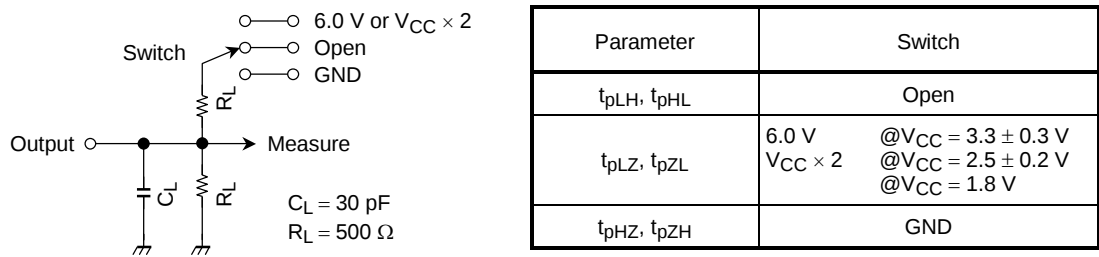
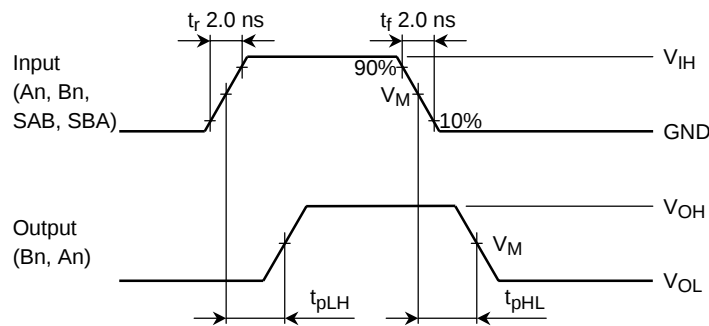

Figure 1
Figure 2  $t_{pLH}$ ,  $t_{pHL}$
| Maximum clock frequency                                | f max                         | Figure 1, Figure 3           | 1.8                 | 100 | —   | MHz  |
| Propagation delay time(An, Bn-Bn, An)              | t pLHt pHL     | Figure 1, Figure 2           | 1.8                 | 1.5 | 9.8 | ns   |
| Propagation delay time(CAB, CBA-Bn, An)            | t pLHt pHL     | Figure 1, Figure 3           | 1.8                 | 1.5 | 9.8 | ns   |
| Propagation delay time(SAB, SBA-Bn, An)            | t pLHt pHL     | Figure 1, Figure 2           | 1.8                 | 1.5 | 9.8 | ns   |
| Output enable time( $\overline{OE}$ , DIR-An, Bn)  | t pZLt pZH     | Figure 1, Figure 4, Figure 5 | 1.8                 | 1.5 | 9.8 | ns   |
| Output disable time( $\overline{OE}$ , DIR-An, Bn) | t pLZt pHZ     | Figure 1, Figure 4, Figure 5 | 1.8                 | 1.5 | 8.8 | ns   |
| Minimum pulse width                                    | t w (H)t w (L) | Figure 1, Figure 3           | 1.8                 | 4.0 | —   | ns   |
| Minimum setup time                                     | t s                           | Figure 1, Figure 3           | 1.8                 | 2.5 | —   | ns   |
| Minimum hold time                                      | t h                           | Figure 1, Figure 3           | 1.8                 | 1.0 | —   | ns   |